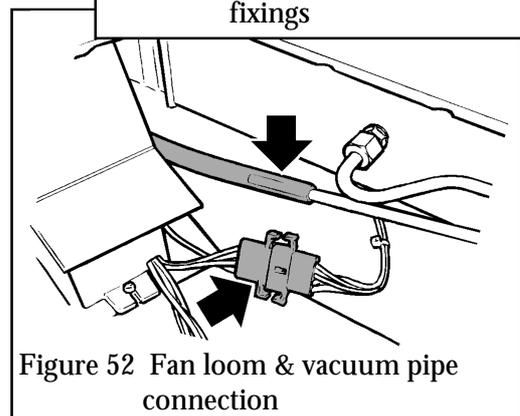

Figure 52 Fan loom & vacuum pipe connection
- 15.9.3** Detach the fan wiring loom connection. (see figure 52).
- 15.9.4** Detach the plastic vacuum tube from the metal vacuum pipe (see figure 52).